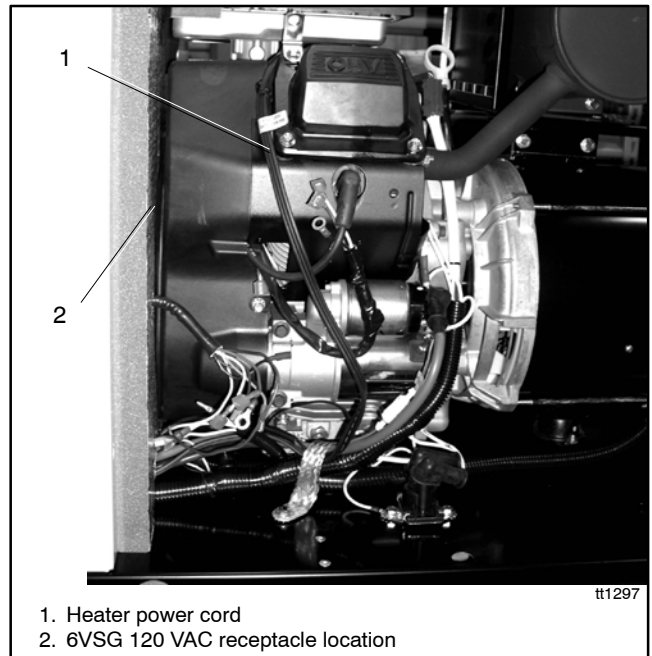
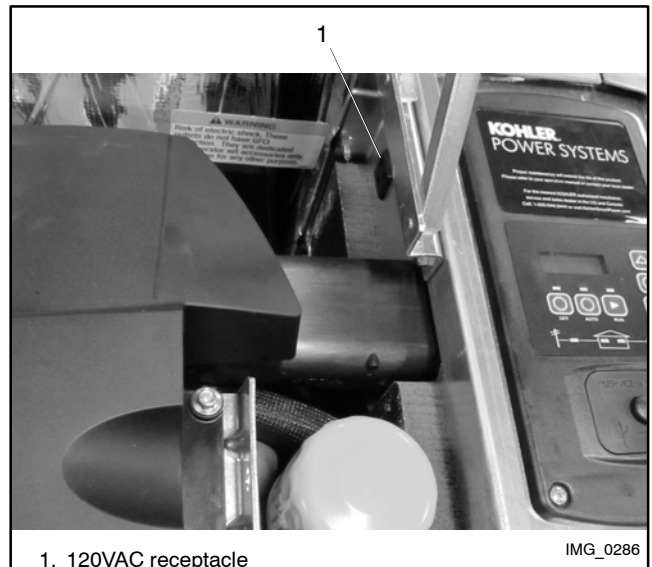

Figure 17 Heater Power Cord, 6VSG and 8.5/12RES
Figure 19 14RESA 120 VAC Receptacle
- Model 6VSG: route the heater cord to the 120 VAC receptacle in the engine compartment. See Figure 17. Use cable tie X-468-1 to attach the cord to the engine's lifting eye.
- Models 8.5RES and 12RES: see Figure 17. Use cable tie X-468-1 to attach the cord to the engine's lifting eye.
- For Model 14RESA, route the heater cord to the 120 VAC receptacle in the engine compartment. See Figure 19. Use cable tie X-468-1 to attach the cord to the engine's lifting eye.
- 7.2 Plug the carburetor heater into a receptacle that has continuous 120 VAC power (load side of an automatic transfer switch). On Models 6VSG and 14RESA, plug the heater into the receptacle in the engine compartment. See Figure 17 and Figure 19.